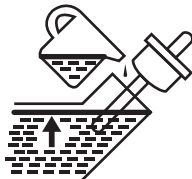

FIGURE 25: Engine Oil Level
4. Insert oil fill cap into oil fill hole but do not screw in (Figure 25).